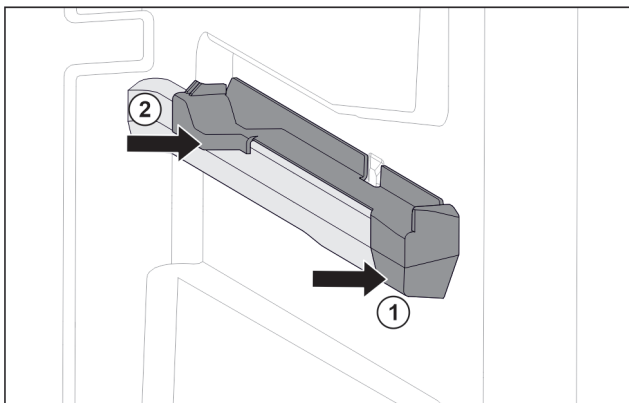

Fig. 94 Attachment on the right moulded rib
- ▶ Position attachment on moulded rib at the front. Fig. 94 (1)
- ▶ Press on attachment at the back. Fig. 94 (2)